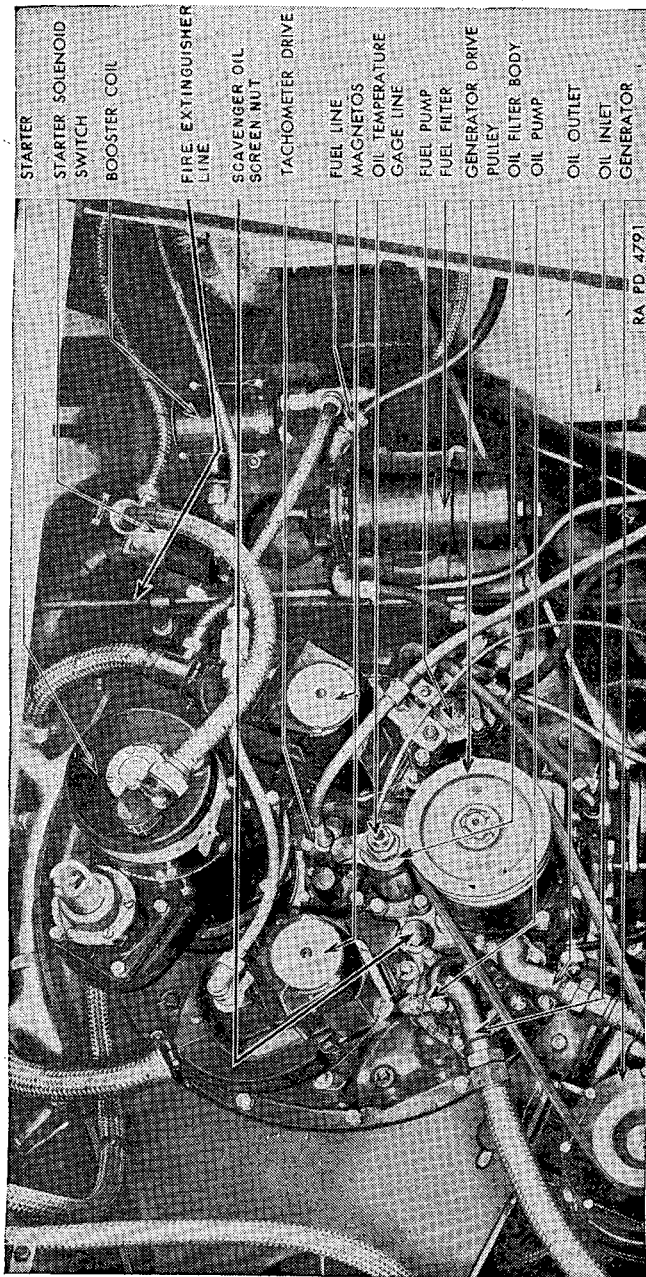

FIGURE 23.—Engine accessories, Continental series 9A.
(f) *Magneto breaker points*.—See that the magneto breaker points are clean and properly adjusted. Check the operation of the magneto (fig. 23).
45. *Accessory case* (fig. 23).—The accessory case is a one-piece aluminum alloy casting attached to the rear section of the main crankcase. It houses all accessory drives and mounts all accessories except the carburetor and generator.
(2) *Scavenger oil pump filter.*—A screen type filter is used to remove foreign matter from the scavenger lines. Remove and clean the screen after each 25 hours of engine operation. To remove screen, remove locking wire and screw screen assembly out of accessory case (fig. 23).